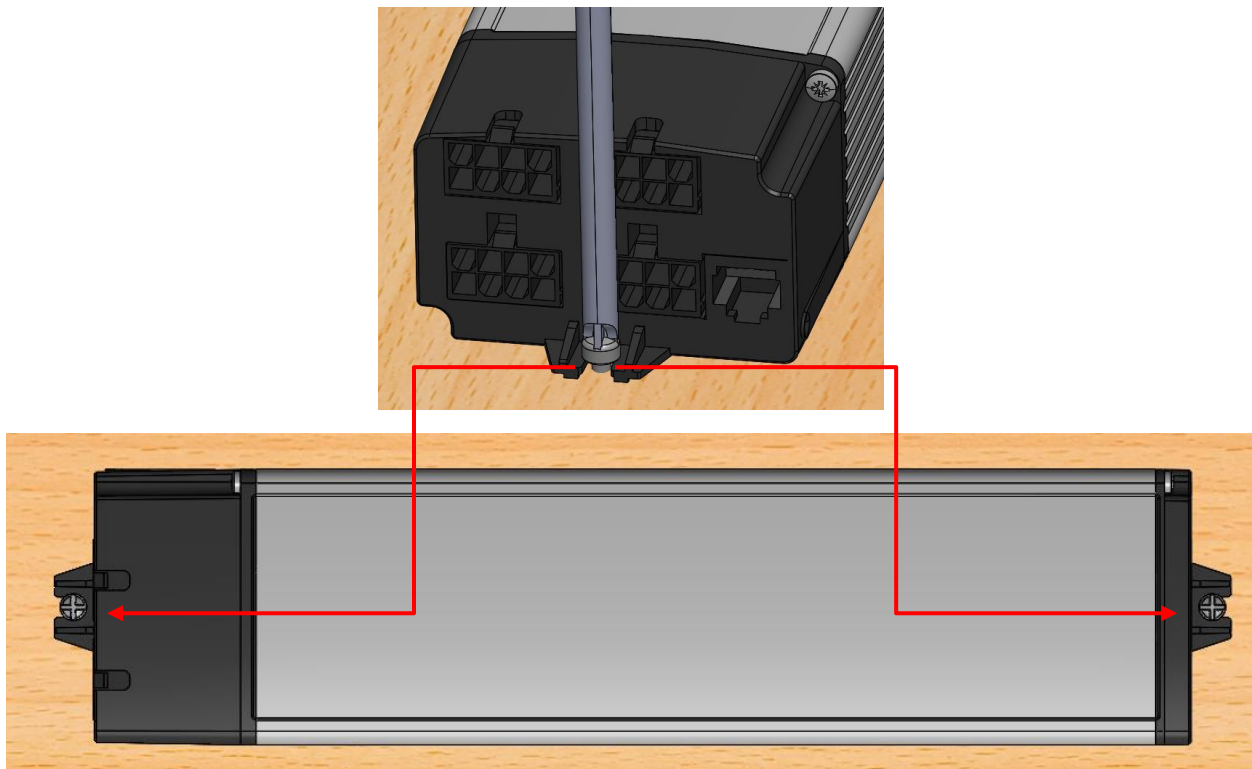

Figure 16 Attaching the electrical controller (2 screw connections)
- ➔ Fix the controller(s) tightly with screws (Figure 16). In this way, you avoid malfunctions caused by loose plug-in connections or undesirable noise development.